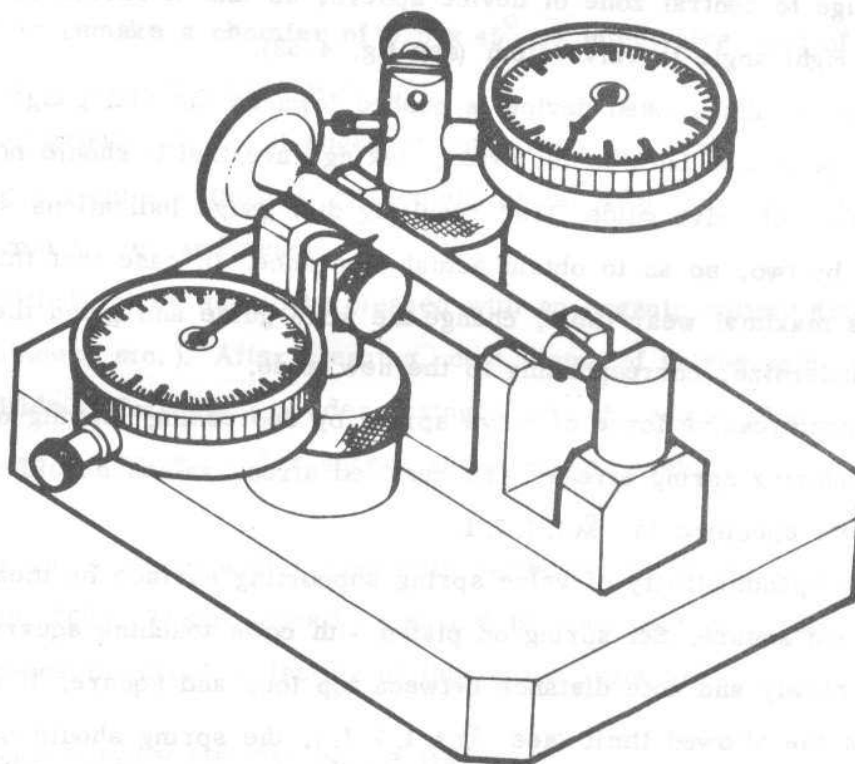

Fig. 4.56. CHECKING VALVES BY MEANS OF D-11 DEVICE.
- Check radial run out of the valve bevel edge by means of D 11 dial gauge checker, as shown in Fig. 4.56.